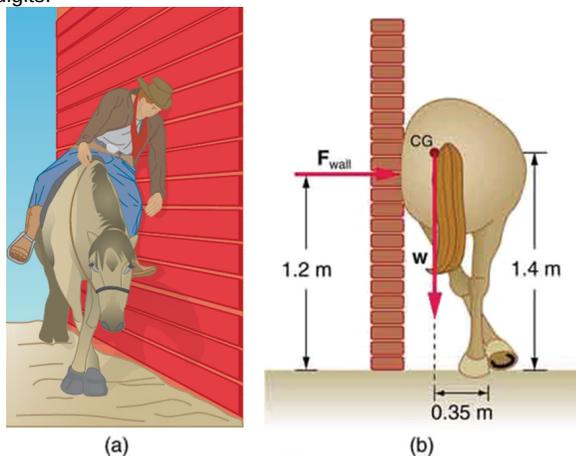

Figure 9.31
25. Suppose a horse leans against a wall as in **Figure 9.31**. Calculate the force exerted on the wall assuming that force is horizontal while using the data in the schematic representation of the situation. Note that the force exerted on the wall is equal in magnitude and opposite in direction to the force exerted on the horse, keeping it in equilibrium. The total mass of the horse and rider is 500 kg. Take the data to be accurate to three digits.
27. (a) Calculate the magnitude and direction of the force on each foot of the horse in **Figure 9.31** (two are on the ground), assuming the center of mass of the horse is midway between the feet. The total mass of the horse and rider is 500 kg. (b) What is the minimum coefficient of friction between the hooves and ground? Note that the force exerted by the wall is horizontal.